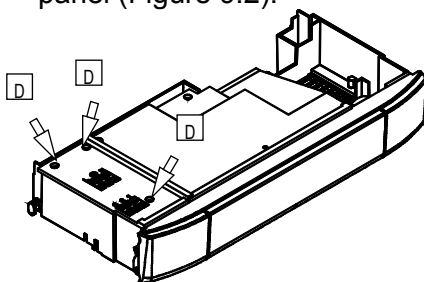

Figure 9.2
- 9) Loosen the screws D and remove the service panel (Figure 9.2).